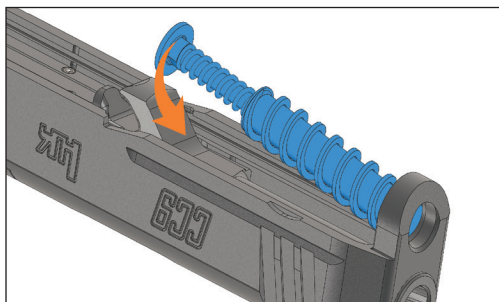

Figure 21 – Reassembling the recoil spring onto the barrel and slide
4. Push the recoil spring forward into position, compressing the recoil spring, then pivot the back of the recoil spring guide rod onto the stepped mounting surface located on the front of the barrel locking lug (see Figure 21). Ensure the front of the recoil spring is facing forward in the slide.